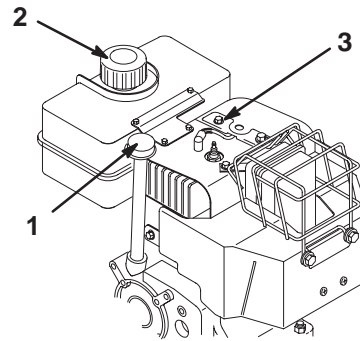

Figure 24
3. Disconnect the wire from the spark plug and ensure that the wire does not contact the spark plug (Fig. 24).
3. Disconnect the wire from the spark plug and ensure that the wire does not contact the plug (Fig. 24).
2. Disconnect the wire from the spark plug and ensure that the wire does not contact the plug (Fig. 24).